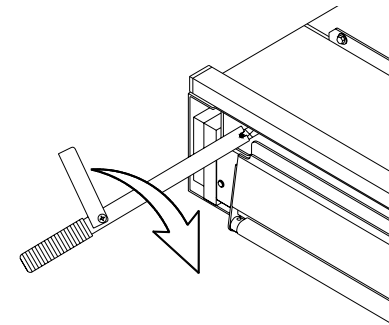

FIGURE 2-10: ROTATE PLATFORM RELEASE SHAFT
- 1) Refer to **Figure 2-10**. Obtain manual pump handle from its storage location, unfold, and engage either keyed release shaft located behind access holes in rollstop. Rotate the shaft $\frac{1}{4}$ turn clockwise.